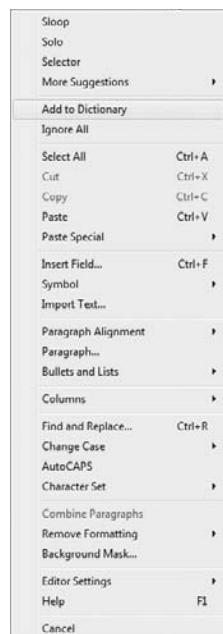

FIGURE 8.70 Adding a word to the AutoCAD dictionary
6. Put the cursor in the word *SolCorp*, and right-click to open the context menu. Near the top of the menu, click Add To Dictionary (see Figure 8.70).